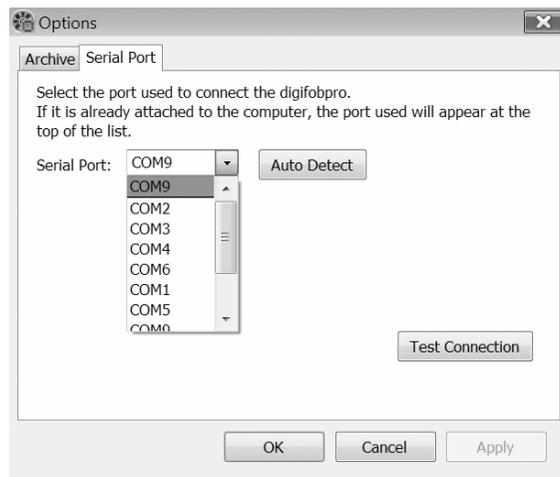

Fig 10.
5. If you are still having a problem connecting then you can try selecting a different com port as shown in Fig 10.